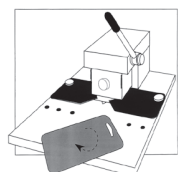

Fig. 7
- 4 - Rotate the card and repeat the operation to round all four corners of the card. [Figure 7]